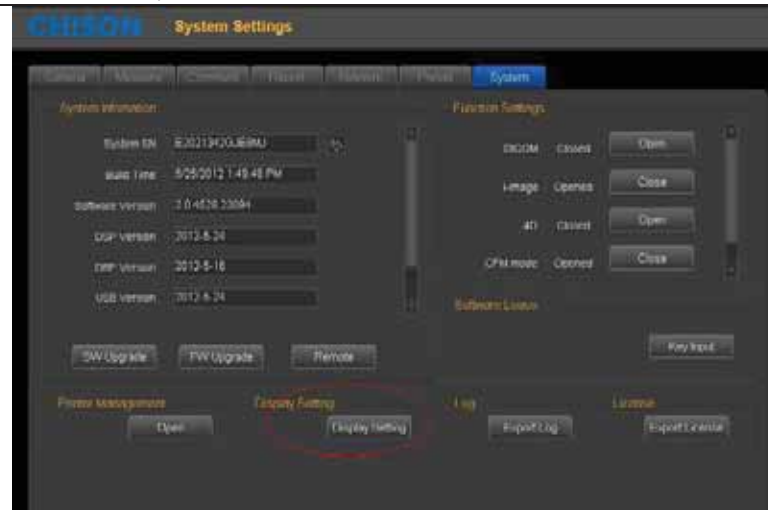

Fig.3-4
- 1) Press the “setup” key; enter "system" interface, then select "Display Setting ". See picture in Fig.3-4.